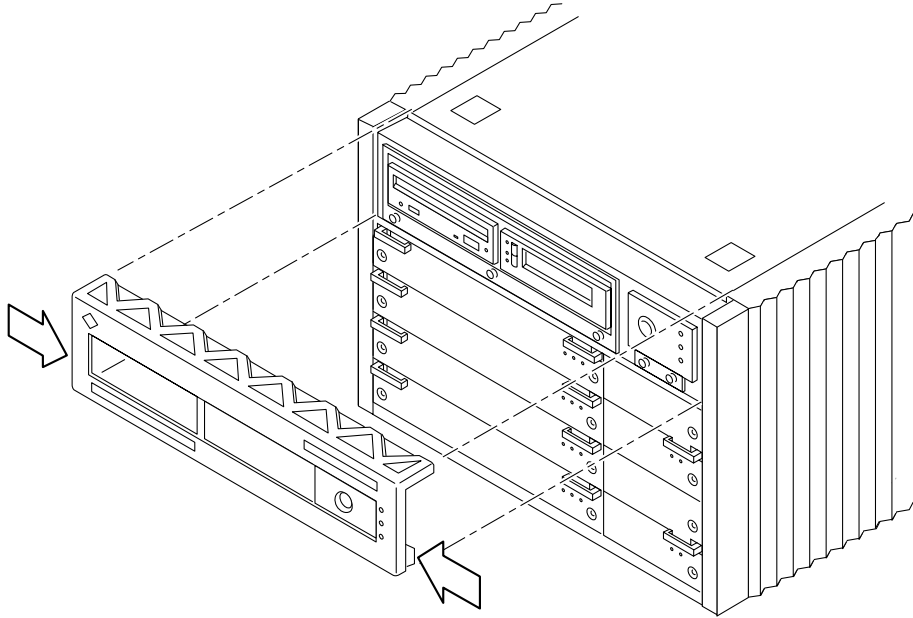

FIGURE E-15 Removing the Top Bezel
Set the bezel aside (FIGURE E-15).
3. Tilt the top bezel at a 45° angle and insert the lip of the bezel under the top of the enclosure (FIGURE E-15).